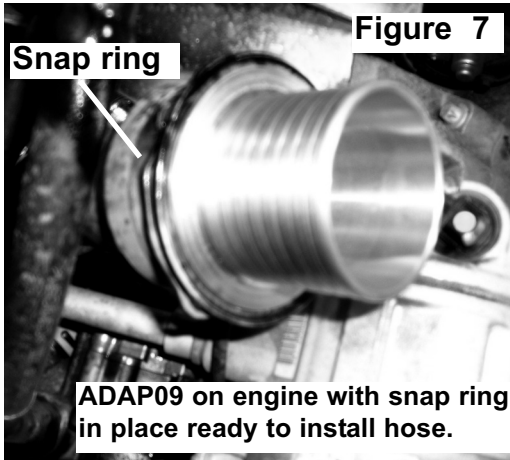
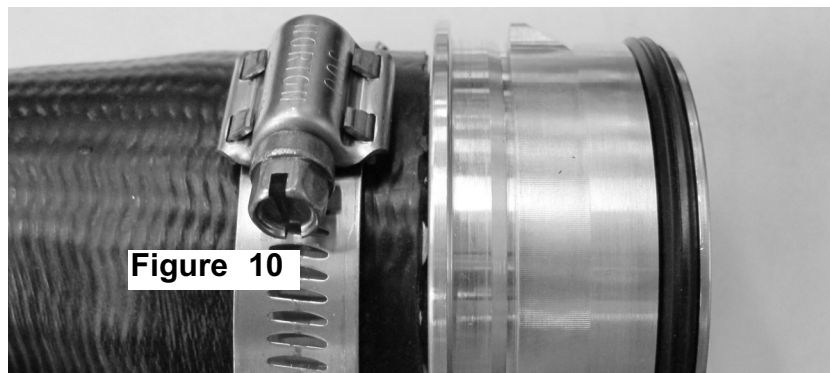

Figure 7
Figure 10
6.) Replace the snap ring in the same position as it was originally. This will hold the ADAP09 in place as soon as you insert it. See (Figure 7). Put a few drops of diesel oil from your dip stick on the O-ring and then press the ADAP09
8.) Place the new clamp supplied in your kit over the end of the hose, but do NOT tighten it yet. Slide the end of the hose over the **already installed ADAP09**, See (Figure 7), using the method shown in (Figure 9) and push the hose on all the way to the "stop-flange" on the ADAP09 as seen in (Figure 10).
10.) Do a final check of the alignment of the hose itself and then tighten **the supplied Norton clamp** on the engine intake side onto the already installed ADAP09 as seen in (Figure 7). Place the clamp about midway along the "ribbed" area of the ADAP09 as shown in (Figure 10) and tighten the clamp with the ratchet, extension and 5/16 socket to the **torque specs** shown in Figure 10. **THIS CLAMP MUST BE TIGHT!**